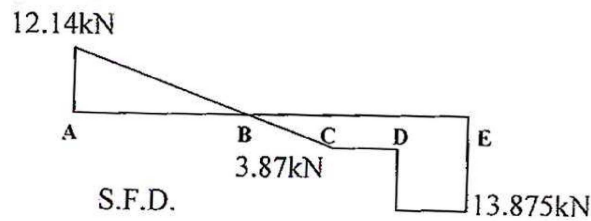

Fig. 7
- (b) Draw the bending moment diagram and loading diagram from given shear force diagram if beam is subjected to a moment at a distance 2 m from end A. (Refer Fig. 7). [9]